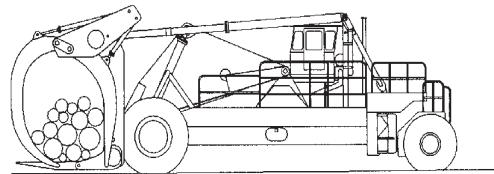

Fig. 5-11
1. To unload the carriage for scaling or sorting, leave the carriage level or tilted slightly back. Lower the boom until the carriage is as close to the ground as possible. See Fig. 5-11.